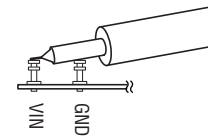

Figure 2. Scope Probe Placement for Measuring Input or Output Ripple
**NOTE:** When measuring the input or output voltage ripple, care must be taken to avoid a long ground lead on the oscilloscope probe. Measure the input or output voltage ripple by touching the probe tip directly across the VIN or VOUT and GND terminals. See Figure 2 for proper scope probe technique.